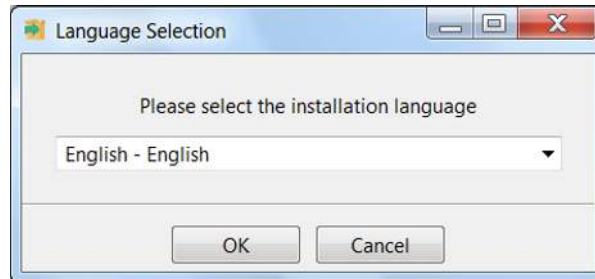

Figure 9. Language Selection
- Step 2. Follow the prompts to select another language from the default of English (see Figure 9).